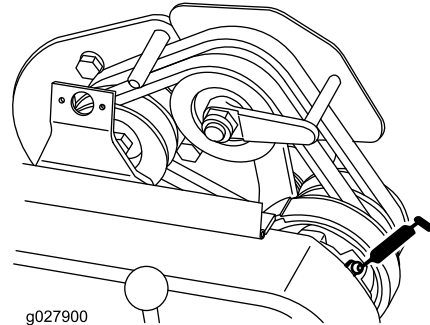

Figure 21
- 1 on the power shaft bearing (Figure 21).